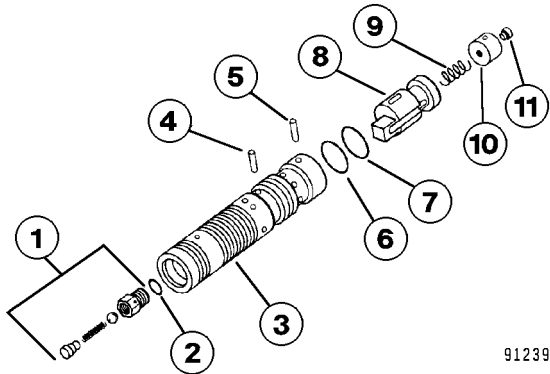

FIGURE 6-5. AMPLIFIER SPOOL ASSEMBLY
2. Remove relief valve plug (20) and seal (5). Use an 8 mm hex allen head wrench to remove relief valve assembly (19). Remove steel seal (6).
3. Use a 13 mm hex head allen wrench to remove screw (11) and lockwasher (12) from end cover (15). Use a 13 mm hex head allen wrench to remove screws (13) and lockwashers (14). Remove end cover (15).
4. Remove spring stop (22) and spring (30). Remove spring stop (23) and springs (28) and (29). Remove O-rings (1) and (2) from end cover (15).
5. Remove spring control (24) and main spool (37). Remove priority valve spool (41). Remove spring control (24), springs (28) and (29), and spring stop (23) from housing (40).
6. Remove amplifier spool assembly (25) and set it aside for further disassembly, if required (see Figure 6-5).
7. Remove shock and suction valve (21) and set it aside for further disassembly, if required.
8. Use a 13 mm hex head allen wrench to remove screw (11) and lockwasher (12) from end cover (16). Use a 13 mm hex head allen wrench to remove screws (13) and lockwashers (14). Remove end cover (16).
9. Remove O-rings (1), (2) and (3). Remove spring (17).
10. Remove shock and suction valve (42) and set it aside for further disassembly, if required.
11. Remove orifice screw (27), orifice screw (33), and check valve (34).
NOTE: Disassembly of the amplifier spool assembly is only necessary if O-ring (2, Figure 6-5), spring (9) or orifice plug (11) require replacement. Otherwise, replace the amplifier spool assembly as a complete unit. Refer to Steps 12 and 13.
12. Remove retaining ring (7, Figure 6-5), remove pin (5). Remove plug (10) and spring (9). Remove retaining ring (6) and pin (4) and remove inner spool (8).
13. Unscrew check valve (1) and remove. Remove O-ring (2). Remove orifice screw (11) from plug (10).